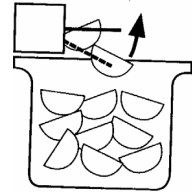

FIGURE 2
- THE ICE MAKING FUNCTION MAY BE TEMPORARILY STOPPED BY RAISING THE METAL ARM INTO AN UPRIGHT POSITION (SEE FIGURE 2)